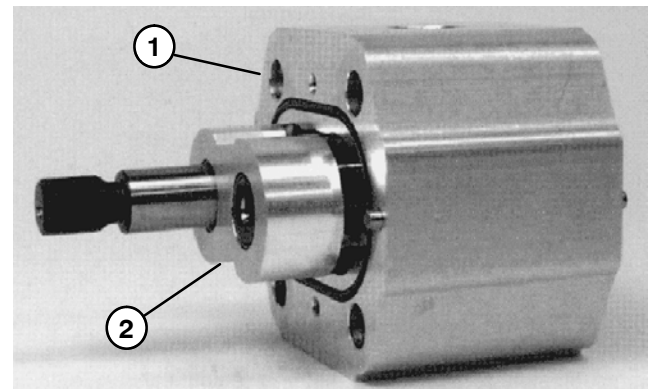

Figure 94
7. Place the motor on its side and push on the rear bearing block to remove the bearing block and gear set (Fig. 94).